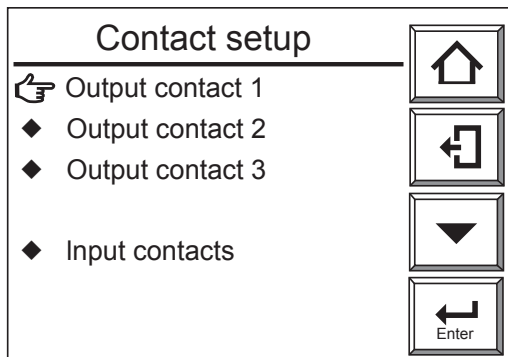

Figure 8.6 Contact Setup Display
- (1) Press the [Setup] key in the Basic panel display to display the Execution/Setup display.
- (2) Select “Commissioning” in the Execution/Setup display. The Commissioning (Setup) display then appears.
- (3) Select the “Contact setup” in the Commissioning (Setup) display. The Contact setup display shown in Figure 8.6 then appears.